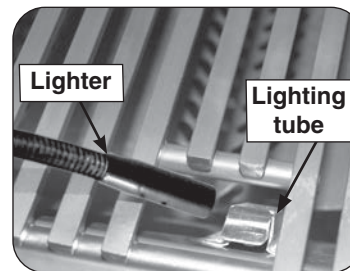
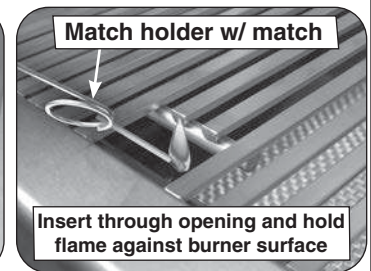

Fig. 29-2 Manual lighting via lighting tube
Fig. 29-3 Manual lighting via match holder
**CAUTION:** Always wait five (5) minutes for gas to clear after any unsuccessful lighting attempt.
2. Insert either a burning long-barrel butane lighter or a burning long-stem match through the cooking grid opening to the top of the lighting tube (see Fig. 29-2). For backburners or infrared burners, hold the flame against the surface of the backburner/infrared burner. Grills equipped with an infrared burner include a wire extension match holder (attached to drip tray) to assist with manual lighting (see Fig. 29-3).
4. If the burner does not light within five (5) seconds of turning the control knob, **immediately depress the knob and turn the valve to OFF**. **WAIT FIVE (5) MINUTES** before repeating steps 2 through 4 of the MANUAL LIGHTING instructions.